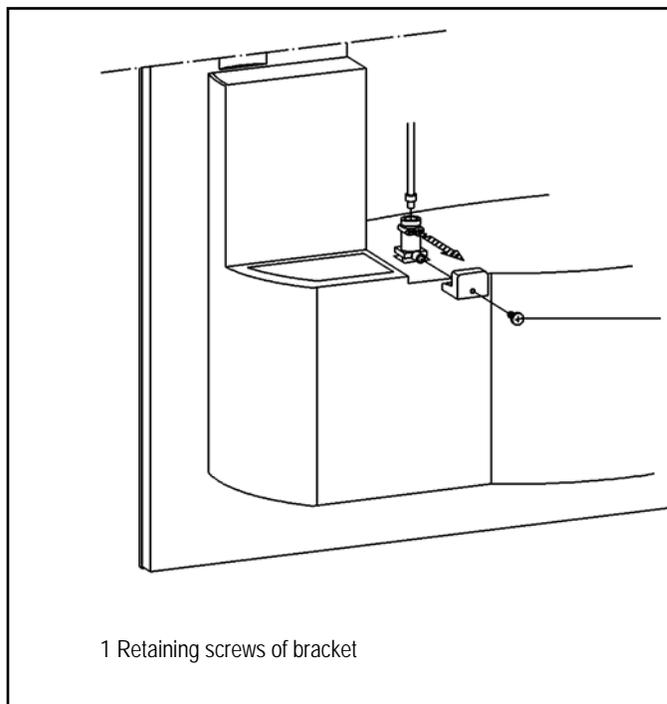

Figure 5-7: CVA4070 Hot Water Retaining Screw Removal
4. Release the teflon hose from its connection and pull it out (Figure 5-7).
5. Remove the screws of the bracket (Figure 5-7, Item1).
6. Remove the bracket (Figure 5-7).